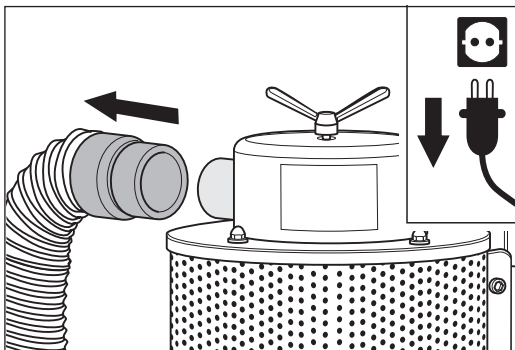

Fig. 65 Pull the suction hose from the neck of the upper part of the separator.
- 5** Pull the suction hose from the neck of the upper part of the separator (fig. 65).